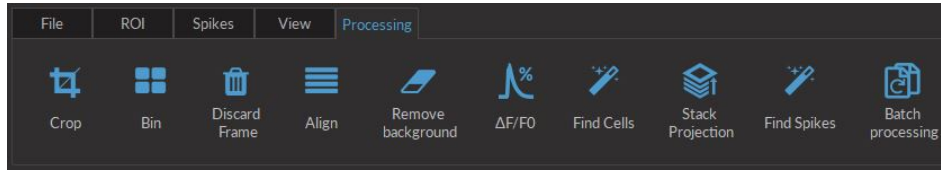

Figure 4.16: Processing Tab
5. The **Processing tab** (Fig. 4.16) is used to process the image data.